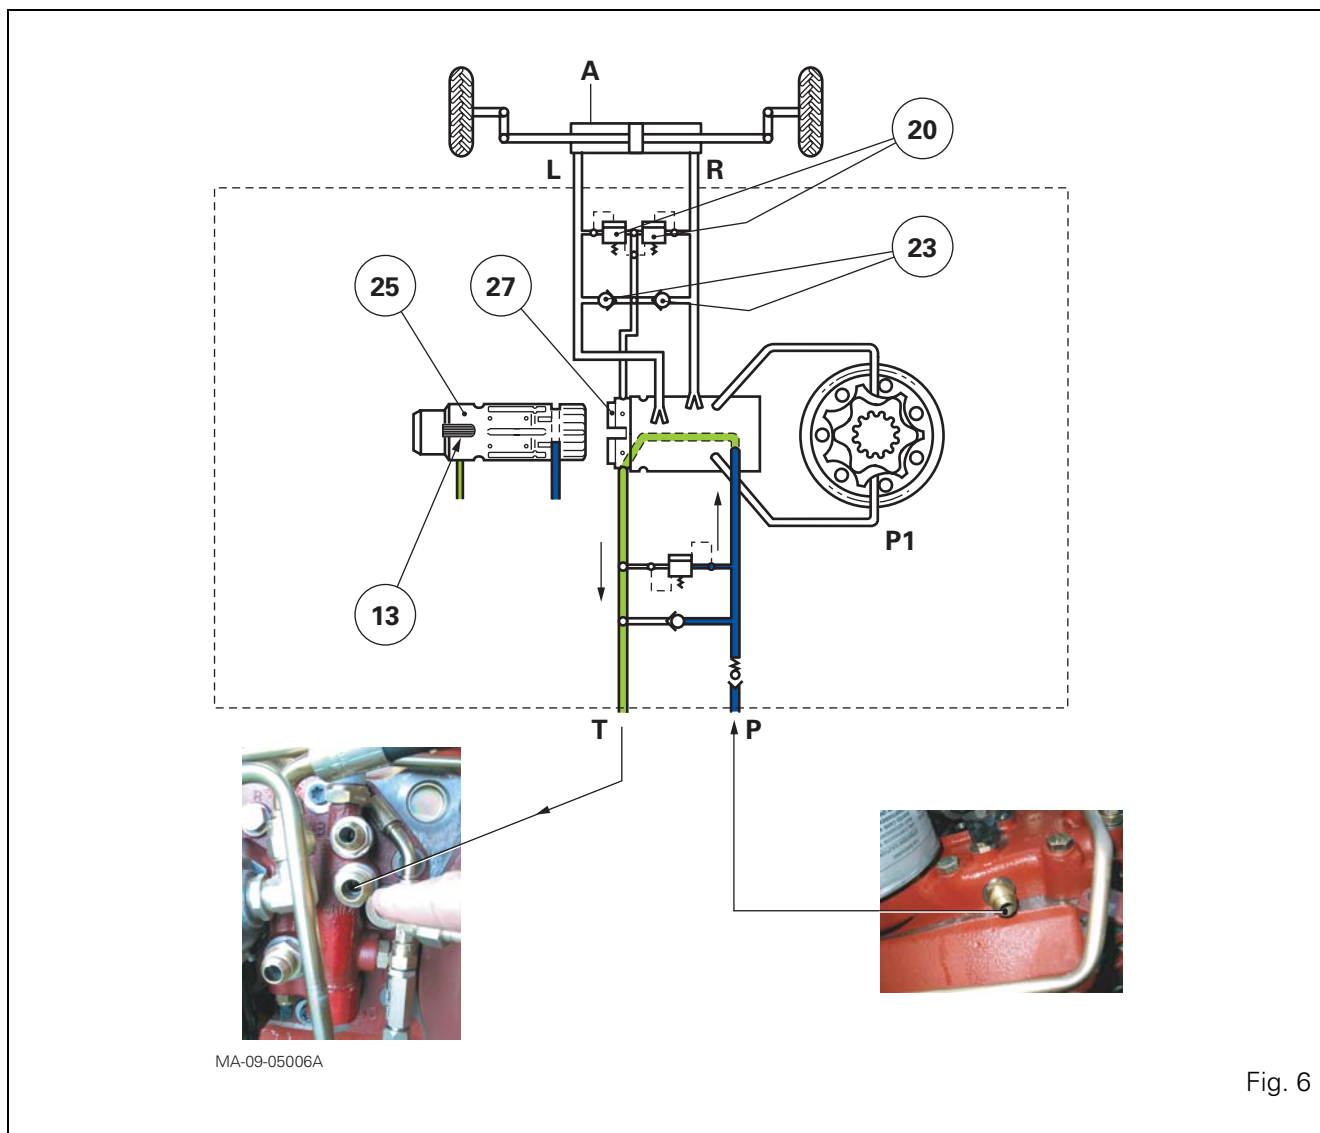

Fig. 6
In neutral position (engine running) (Fig. 6), the spool valve (25) is centred in relation to the sleeve (27) by the springs (13). The channels (P1), (L) and (R) are not supplied.
Legend (Fig. 6)